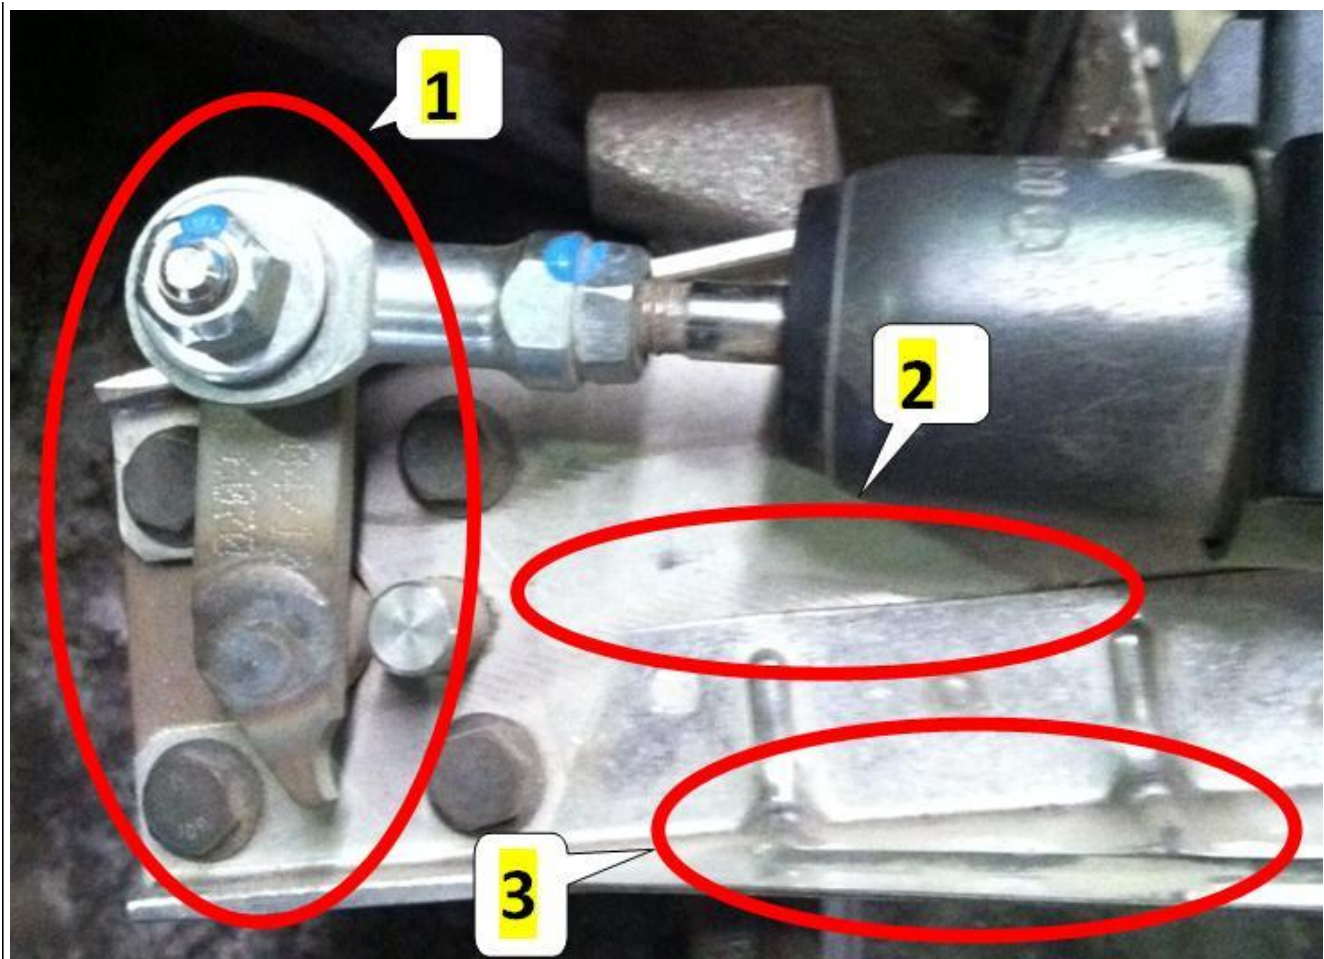

Figure 2
**3 Ways to Identify Old Style EGR Valve (Figure 2)**